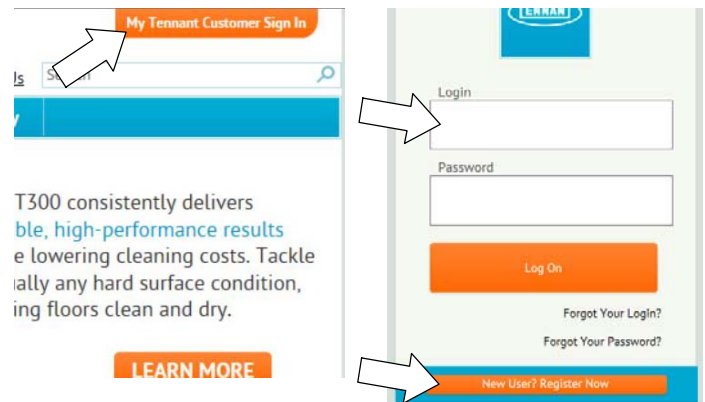

Fig. 28
1. Log in to the “My Tennant” website or register as a new user (Figure 28).